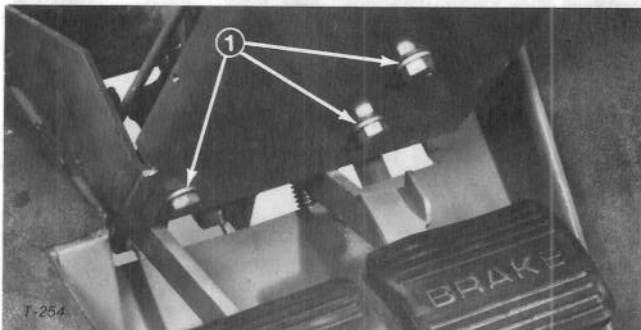

Figure 34
6. Remove capscrews and lockwashers retaining steering gear against steering tower (Fig. 34). Slide steering gear down off steering tube and away from the tower.
2. Insert input shaft of steering gear into steering tube and hold gear against steering tower. Secure gear in place with three capscrews and lockwashers (Fig. 34). Lock steering gear and tube together by tightening steering clamp locknut and carriage bolt.